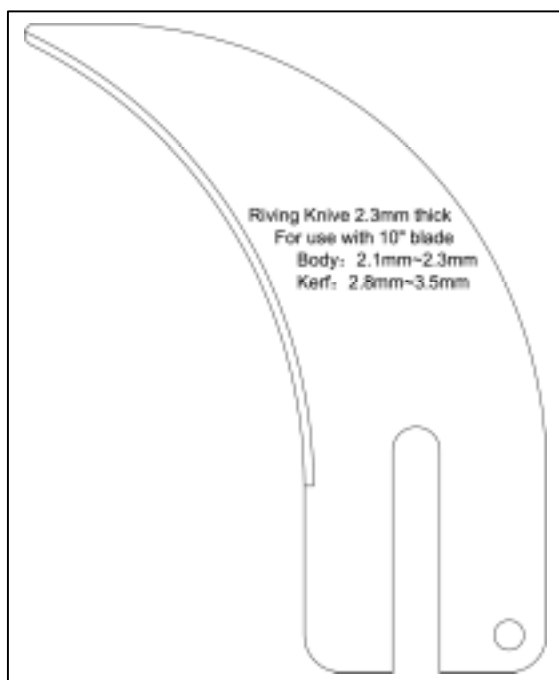
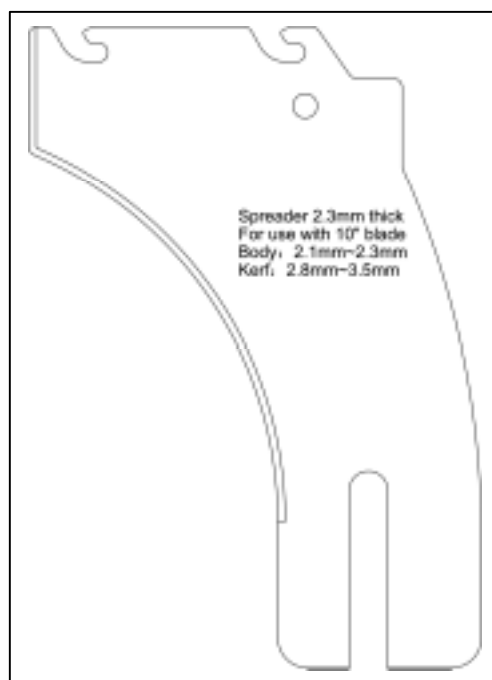

Fig2-2
Fig2-3
2. Please use the standard blade according to the specification mark on the blade as Fig.2-2 & Fig.2-3 :